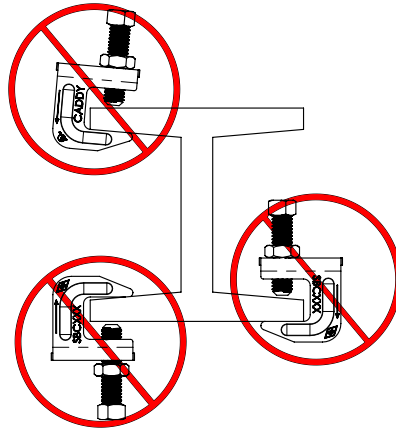

Figure 3
4. Clamp must not be secured in reverse position. See figure 3 for incorrect mounting positions.